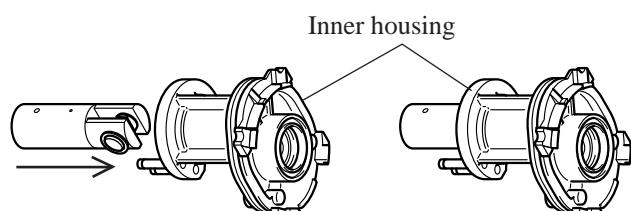

Fig. 11A
3. Insert the above piston cylinder into inner housing as illustrated in Fig. 11A.